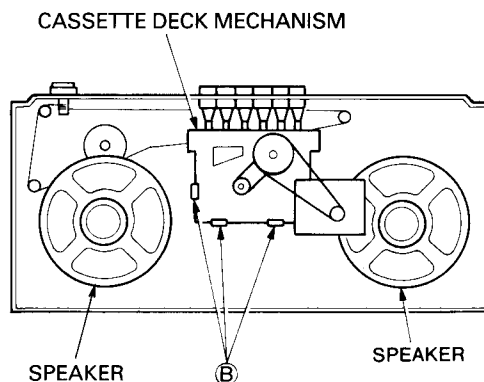

Fig. 4
5. Removing the cassette deck mechanism (Fig. 4)